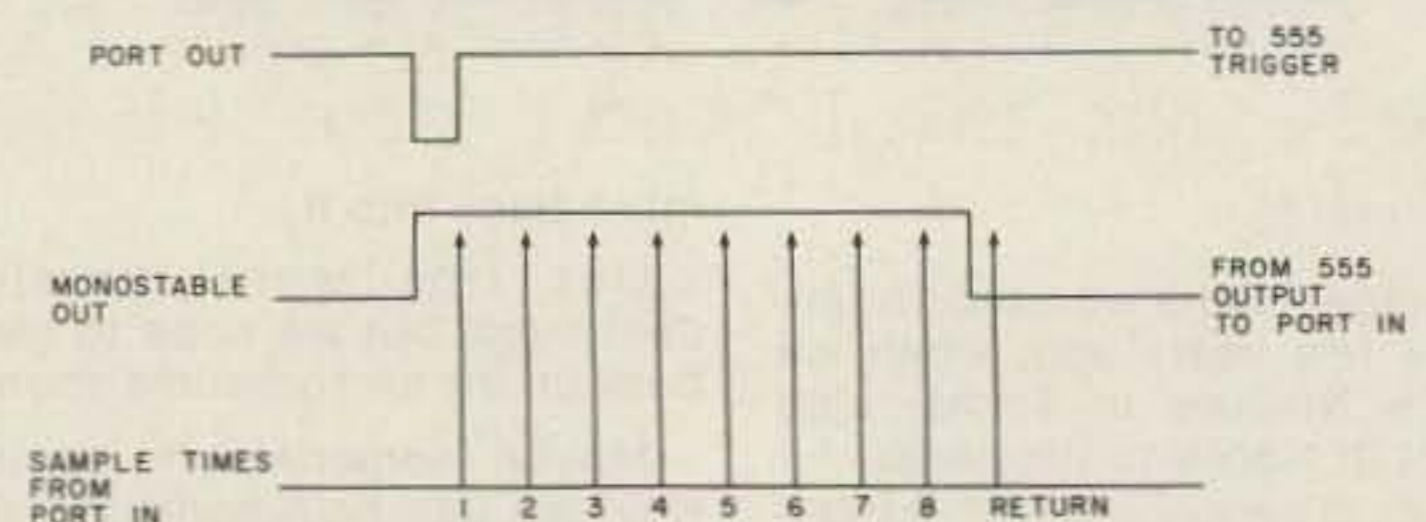

Fig. 3.
The monostable is triggered under control of an output port bit. Triggering the 555 requires a trigger signal going from a high (+5) level to a low (0) level for a brief period and then returning the trigger signal to a high level (see Fig. 3). The monostable now switches its output to a high level, and this level is sampled at an input port until the monostable times out. While the monostable is timing out, a count is made, and this count is software scaled to equal the value of capacitance that